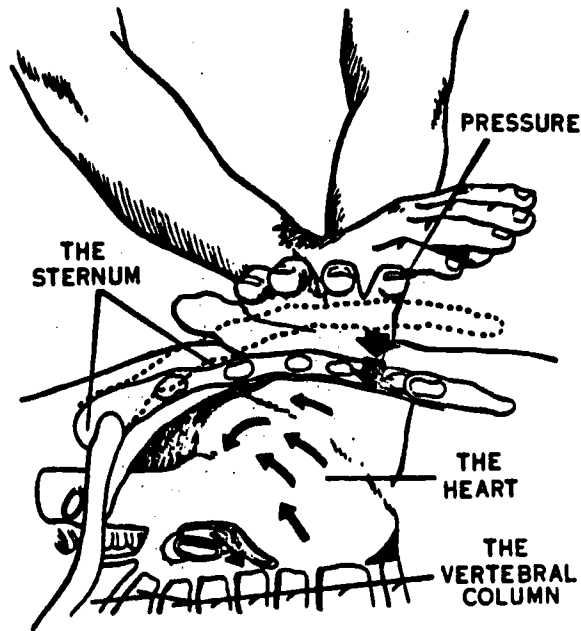
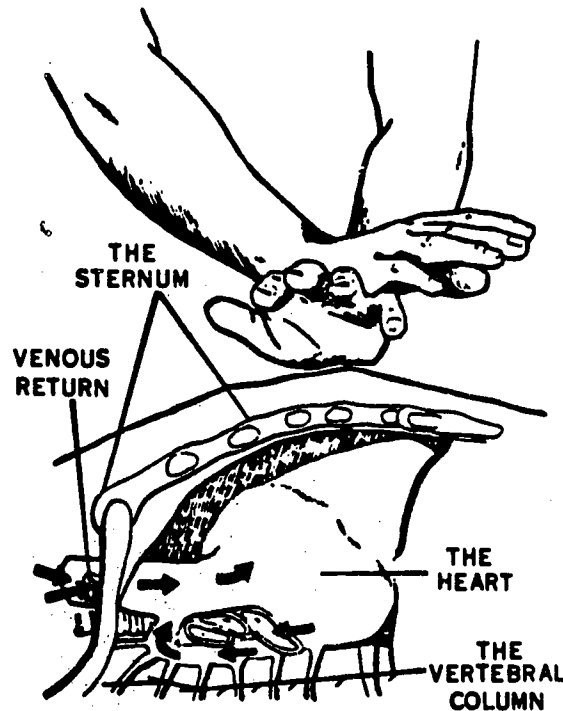

Fig 2-11. Pressure forces blood out of the chest.
Fig 2-12. Release pressure to refill the heart.
- o Rock forward, keeping your arms straight and using the weight of the upper part of your body to exert enough pressure to depress the breastbone 1-1/2 to 2 inches (see fig 2-11). Keep your hands in place while you release the pressure (see fig 2-12).